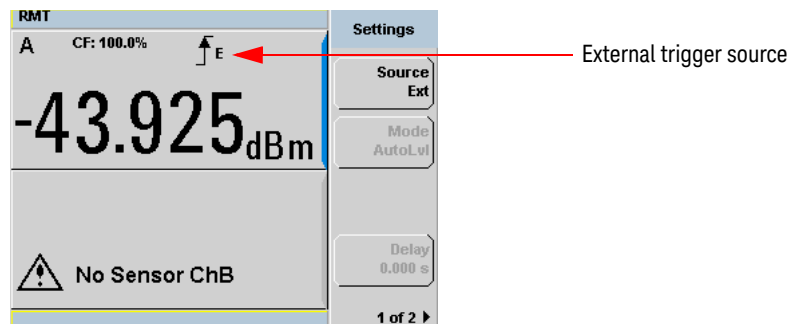
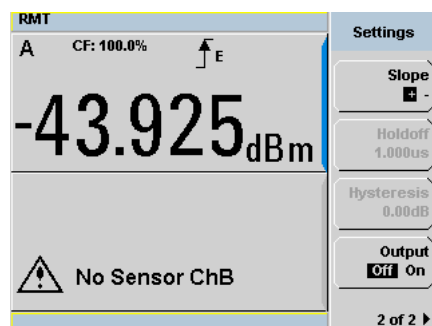

Figure 2-21 Trigger setting menu 1 of 2
Figure 2-22 Trigger setting menu 2 of 2
- 7 Press **Settings** to configure the remaining trigger parameters. The trigger **Settings** menu consists of two pages. Figure 2-21 shows page 1 and Figure 2-22 shows page 2.
- 7 Press **Settings** to configure the remaining trigger parameters. The trigger Settings menu consists of two pages. Figure 2-21 shows page 1 and Figure 2-22 shows page 2.